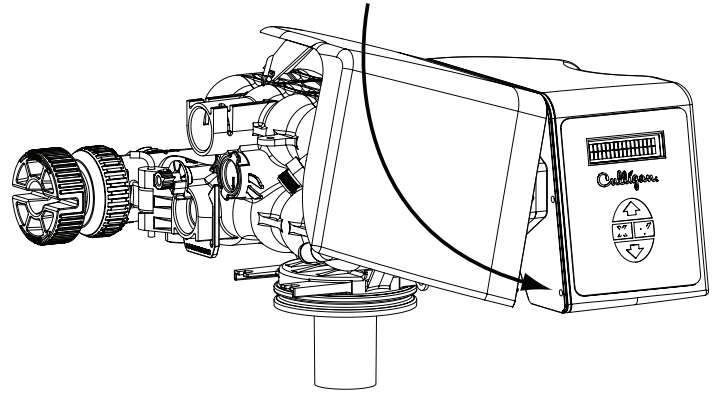

Figure 11. Reattaching the HE softener cover.
2. Rotate the cover downward inserting the two pins on the side of the cover into the two holes on side of the frame. See Figure 11.